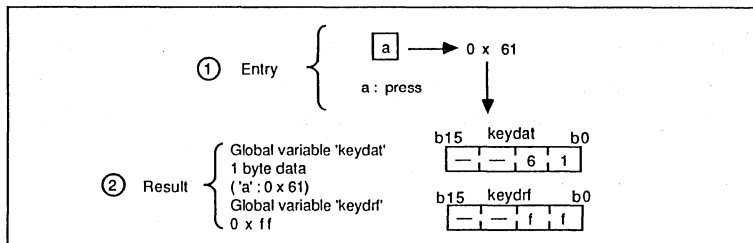

Figure 4-8. Program Module expip Execution Example
**Example:** Figure 4-8 shows an example of program module 'expip' execution. If key "a" on the console typewriter is pressed as shown in ①, the received data is put in the key data buffer and oxff is stored in 'keydrf' as shown in ②.